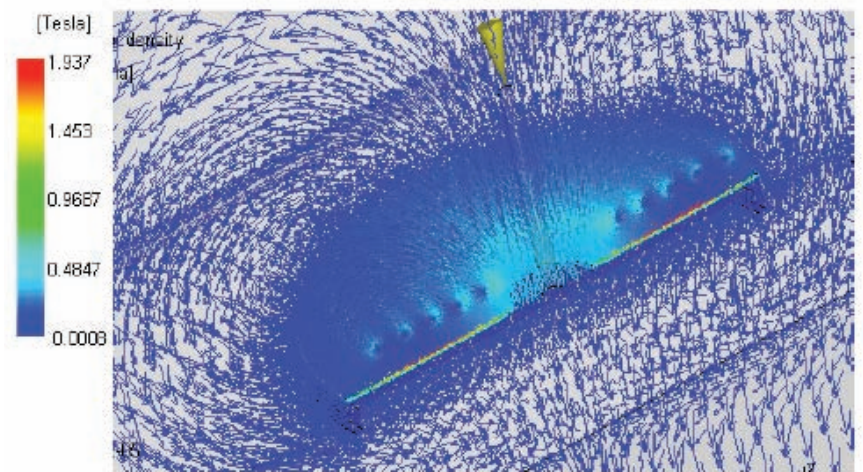
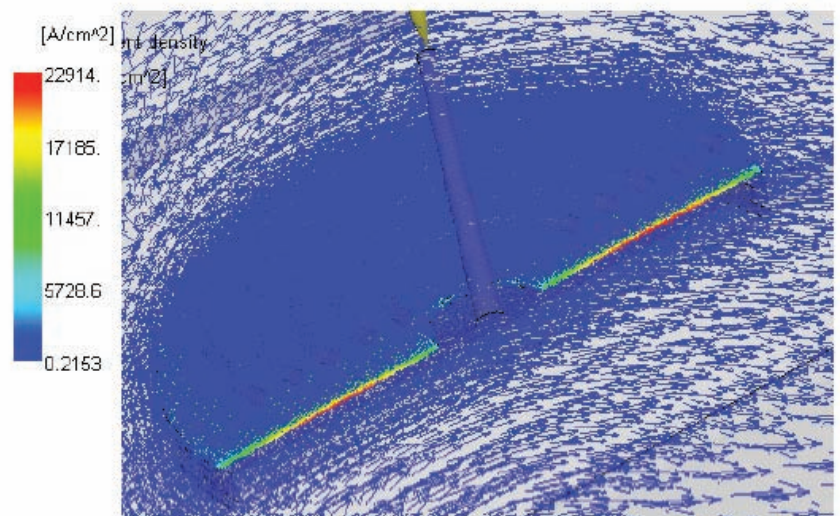

Figure 3: Magnetic flux density results in the mold.
Figure 4: Induced current density result in the mold.
Figure 3 shows the magnetic flux density, equation (11), result in the mold and the nickel insert. Once again this result is a vector plot.
This magnetic field, **figure 3**, in turn gives rise to an induced electric current in the coil surroundings. **Figure 4** shows the induced electric current, equation (22), result provided by the solver. This result is also a vector result with the arrows indicating the direction of the induced current.